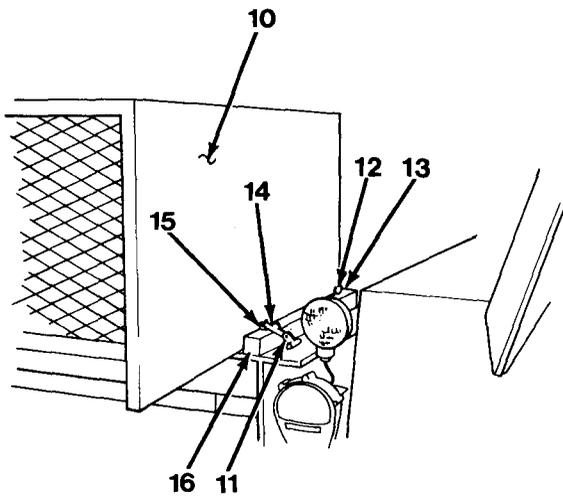

Figure 14-2
1. Install two blocks (16) and four screws (15, Figure 14-2).
2. Install two lower latches (11) and four cap-screws (14).
3. Position engine hood (10) onto top of guide rails (13) past hood on radiator.
4. Push inward on side of engine hood (10) just above earn follower (12) and position cam follower (12) under guide rails (13).
5. Push engine hood (10) back and latch in place with lower latches (11).